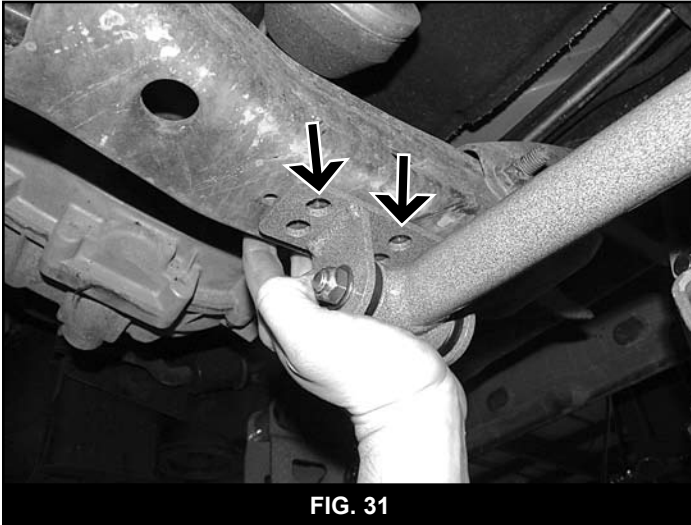

FIG. 31
65. Install compression strut bracket (01242) onto end of compression strut with 7/16" hardware. Tabs face towards inside of vehicle. Mark the center of holes that are best centered in the crossmember and drill out to 7/16" (Fig 31). Remove the brackets from the compression struts and install the brackets with nut tabs (insert through large holes in the crossmember) (01248) and 7/16" x 1-1/4" bolts and washers. Torque the 7/16" hardware to 45 ft-lbs and the 3/8" hardware to 30 ft-lbs.